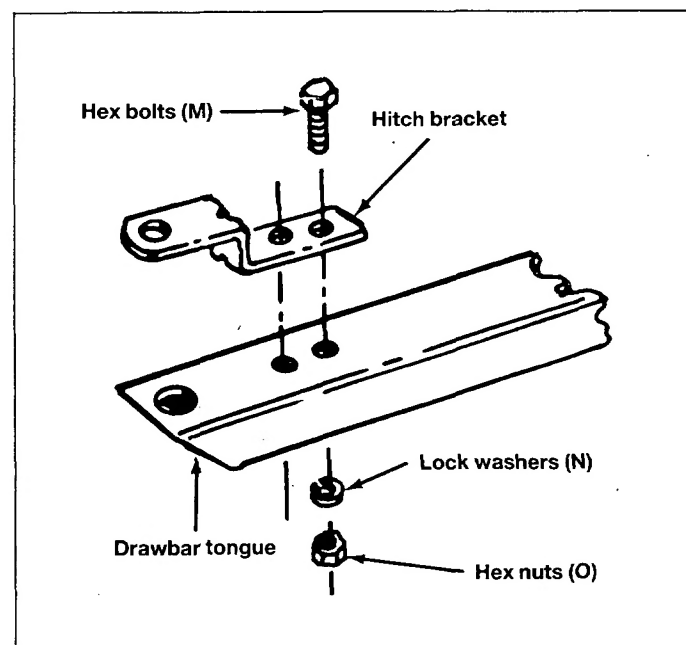

Fig. 14
19. Assemble hitch bracket to drawbar tongue, using 3/8" x 1" (10 x 25 mm) long hex bolts (M), lock washers (N) and hex nuts (O). See figure 14.